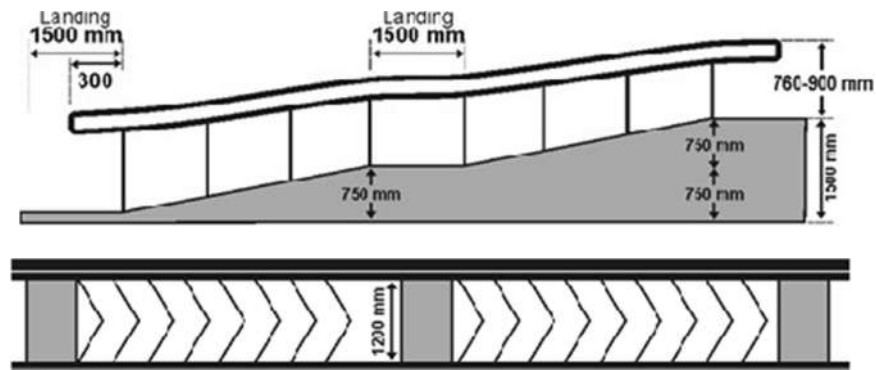

Figure 5.10 Ramp with handrails on both the sides
- To be on both sides at two heights- 760mm-900mm, painted in contrast color against the background wall; both ends to be rounded and grouted and extend 300mm beyond top and bottom of ramp (**Figure 5.10**)